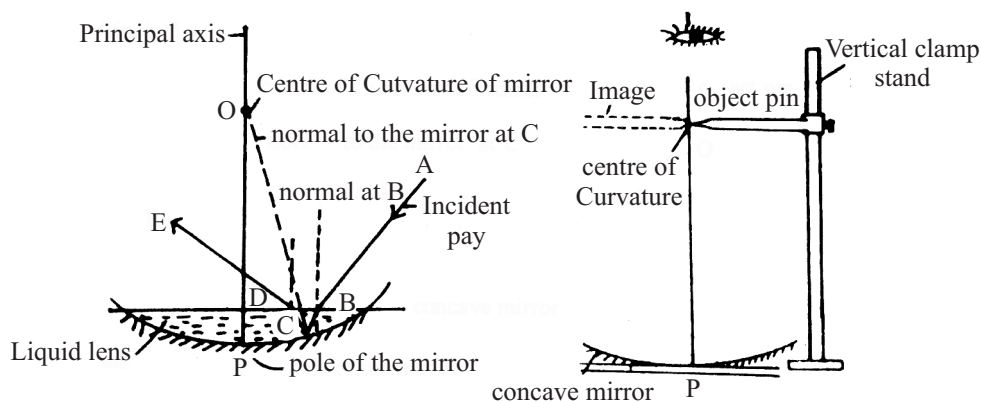

Fig. 18.1: Ray diagram **Fig. 18.2:** Showing the path *ABODE* of a ray of light
- (ii) Put the vertical clamp stand near the concave mirror and clamp the object pin horizontally in the vertical rod of the stand. Adjust the tip of the object pin just vertically above the centre of the concave mirror as shown in the figure 18.1.